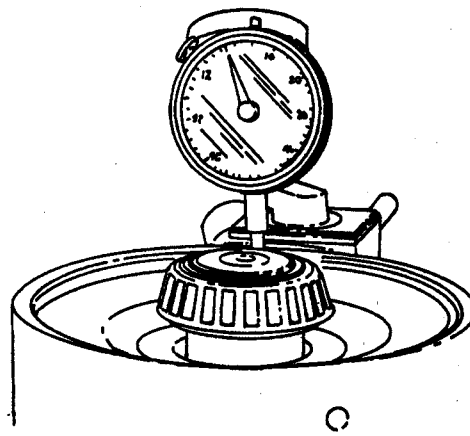

Figure 48.
5. Using a dial indicator as shown in Figure 48, measure the end float of the pressure (end) plate, which should be 0.087 to 0.138 inches (2.2 to 3.5 mm). If necessary, install shim (122) between circlip (104) and pressure (end) plate (105) to correct end float inaccuracies.